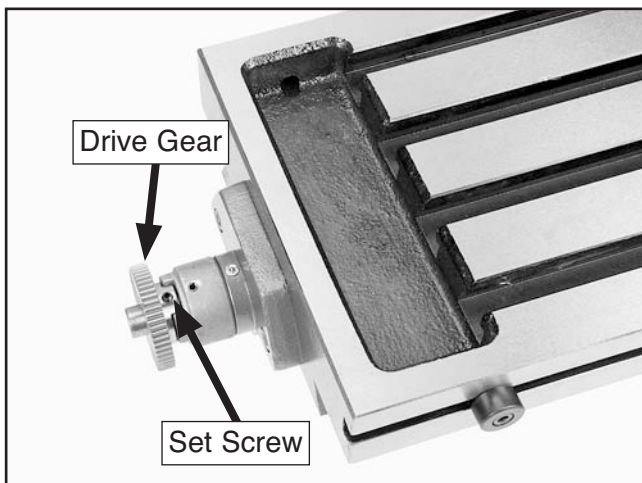

Figure 12. Attaching drive gear.
1. Attach the 2 $\frac{1}{4}$ " diameter drive gear to the left end of the longitudinal table leadscrew. Slide the gear over the shaft, as shown in **Figure 12**, then tighten the set screw.